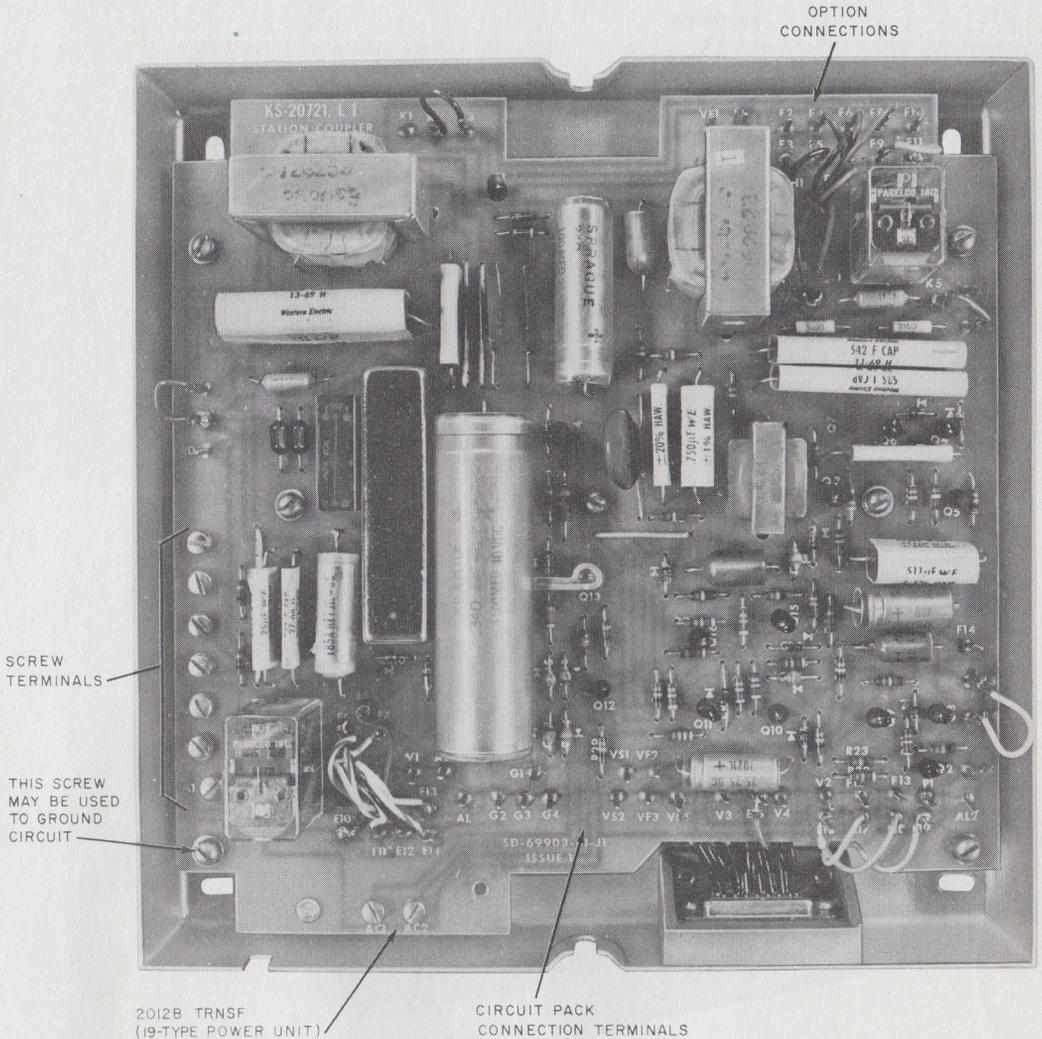
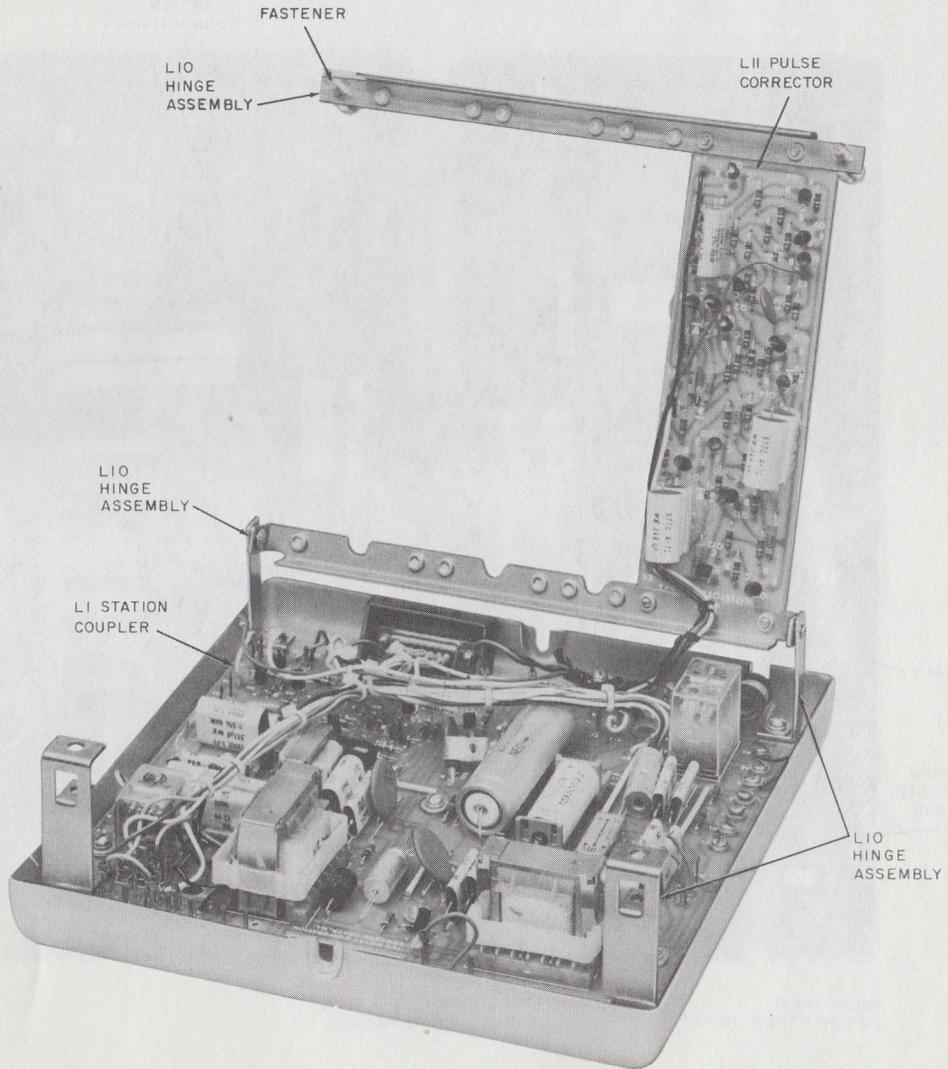

Fig. 2—KS-20721, List 1, Station Coupler, Cover Removed
Fig. 3—KS-20721 Station Coupler Showing Optional Circuit Pack
- Revise Fig. 3 and 6
- Assembly, Hinge, KS-20721, L10 (Fig. 3)
**2.02** The KS-20721, List 1 station coupler (Fig. 2) is the basic unit, designed to be field equipped with a KS-20721, List 10 hinge assembly for mounting the optional circuit pack (Fig. 3). The circuit pack is equipped with quick connect connectors for easy installation.
(1) Remove the cover from the station coupler using the KS-19192, List 1 tool or screwdriver.
(2) Attach KS-20721, List 10 hinge assembly to the four corner screws mounting the List 1 board. Refer to Fig. 3.
(3) The installer can mount any combination of circuit packs on the internal mounting frame formed by the hinge assembly. Place board in correct position on frame (refer to Fig. 3 or cover label) and secure with four corner mounting screws furnished with circuit pack.
(4) Connect the flexible jumper leads on List 1 board to provide the options called for in Table A by using the connecting information given in Table B.
(5) Plug connecting leads from boards into corresponding terminals on List 1 board per Table B and Fig. 3 and 4. Dress leads to avoid